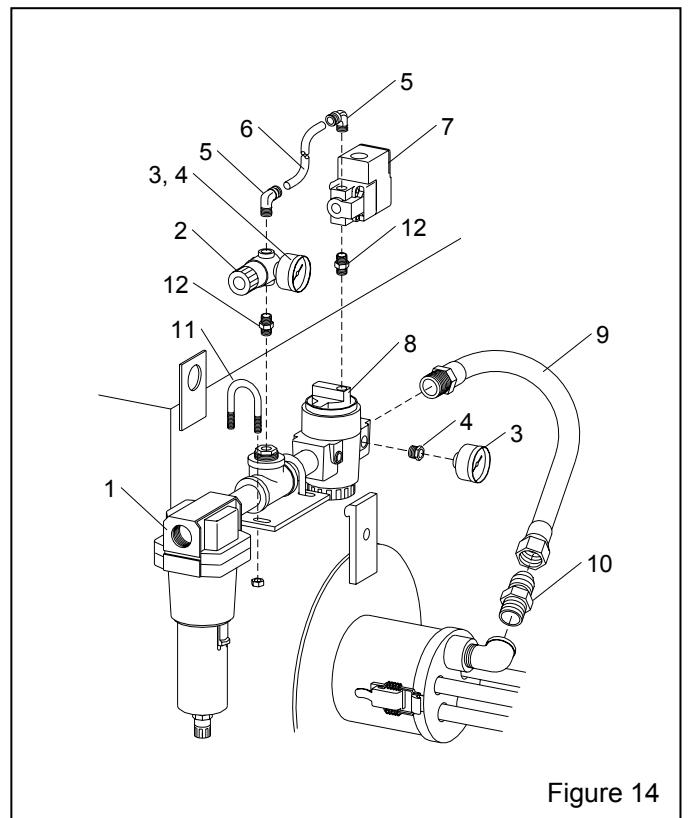

Figure 14
9.7 Plumbing Assembly, Figure 14